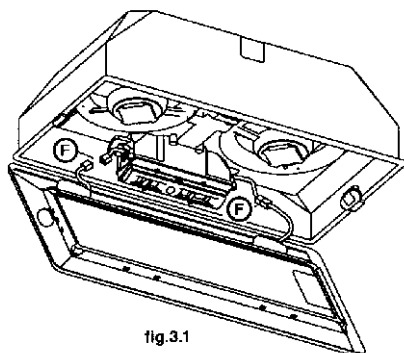

fig.3.1
*Note: For the version with halogen lamps, switch off the connectors "F" Fig. 3.1.